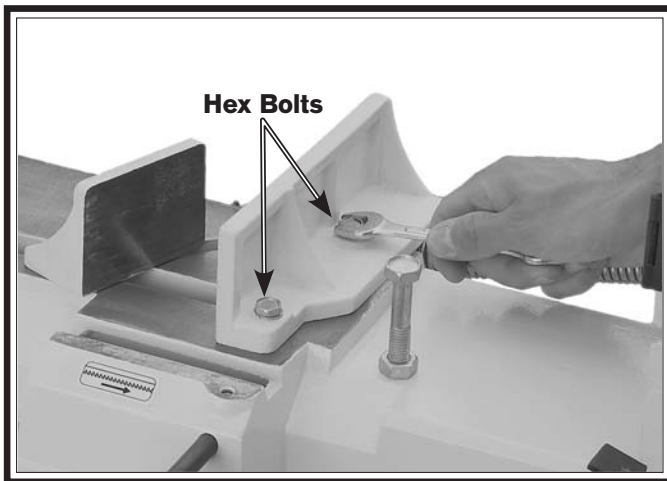

Figure 37. Vise hex bolts.
1. Loosen the two hex bolts shown in **Figure 37**.